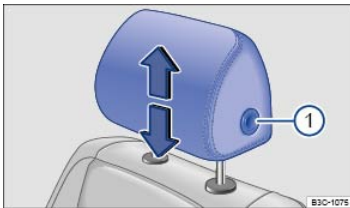

Fig. 83 Adjusting the front head restraints.
- While pressing the button ⇒ Fig. 83①, pull the head restraint up or push it down ⇒ ▲.